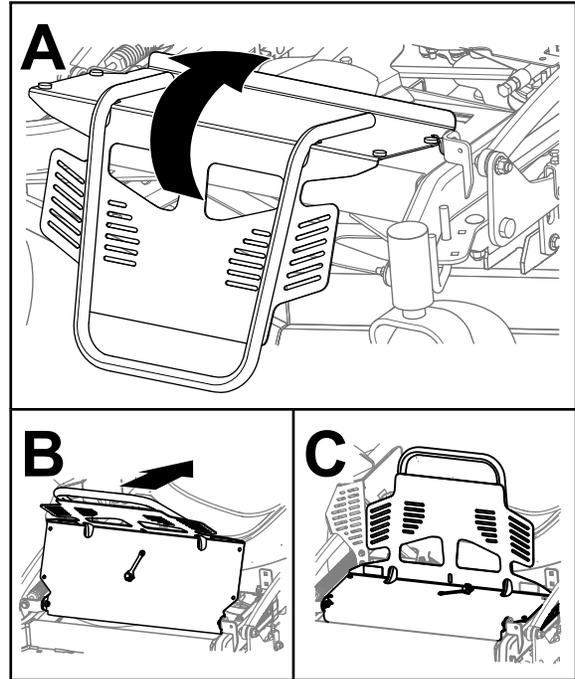

Figure 33
- Rotate the engine guard back as shown in Figure 33.